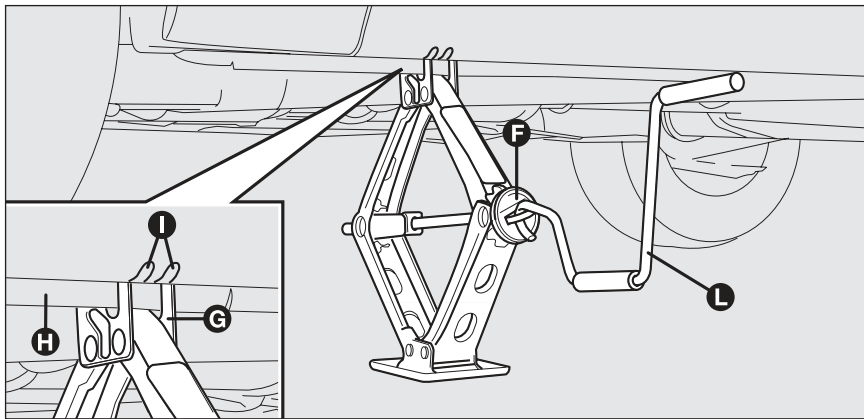

fig. 12
- Work the jack crank **F-fig. 12** to extend it until the groove **G-fig. 12** on the upper part of the jack is correctly inserted on the lower profile **H-fig. 12** of the body in point **I-fig. 12** (at approx. 72 cm from the front wheel centre or 75 cm from rear wheel centre);
- Fit the handle **L-fig. 12** to operate the jack and raise the car until the wheel is a few centimetres from the ground;
- Work the jack handle **L-fig. 12** to lower the car and remove the jack;